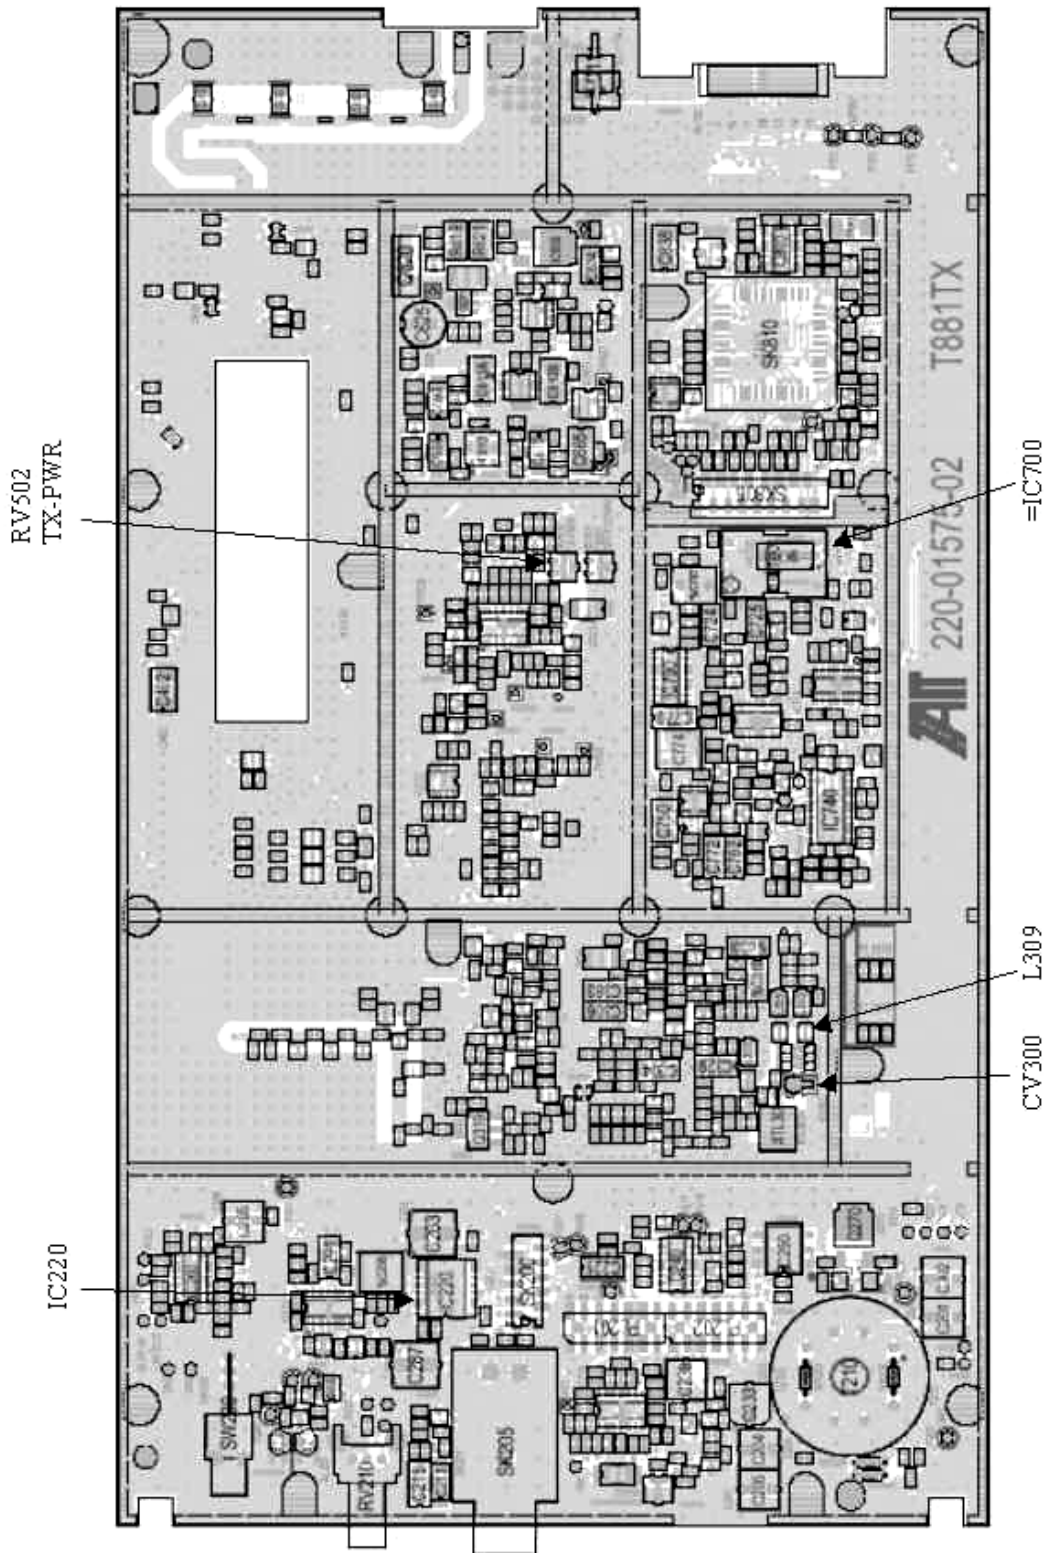

Figure 28 - T881-0200 Exciter Tuning Controls Locations
- 800/900 MHz (T881) = 4W ± 300 mW (RV502, Figure 28)